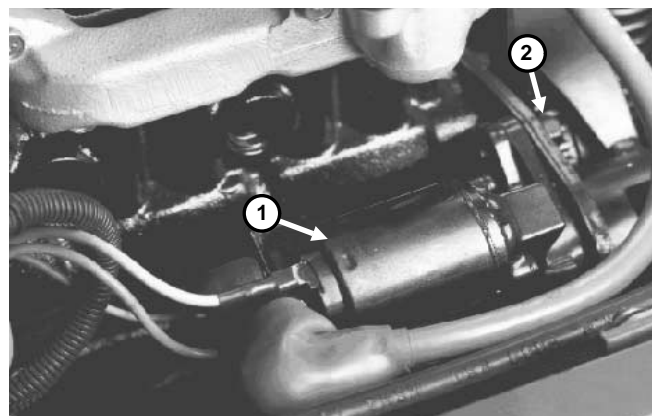

Figure 42
2. Disconnect the wires from the starter solenoid (Fig. 42).